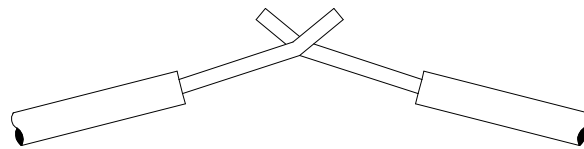

Fig. 1
- For a small gauge wires, (up to 1mm2), and when a mechanical attachment is required, secure the 2 wire ends, by twisting them together. Align carefully the strands in order to avoid any poke through of the sleeve. See Fig. 1 and Fig. 2.